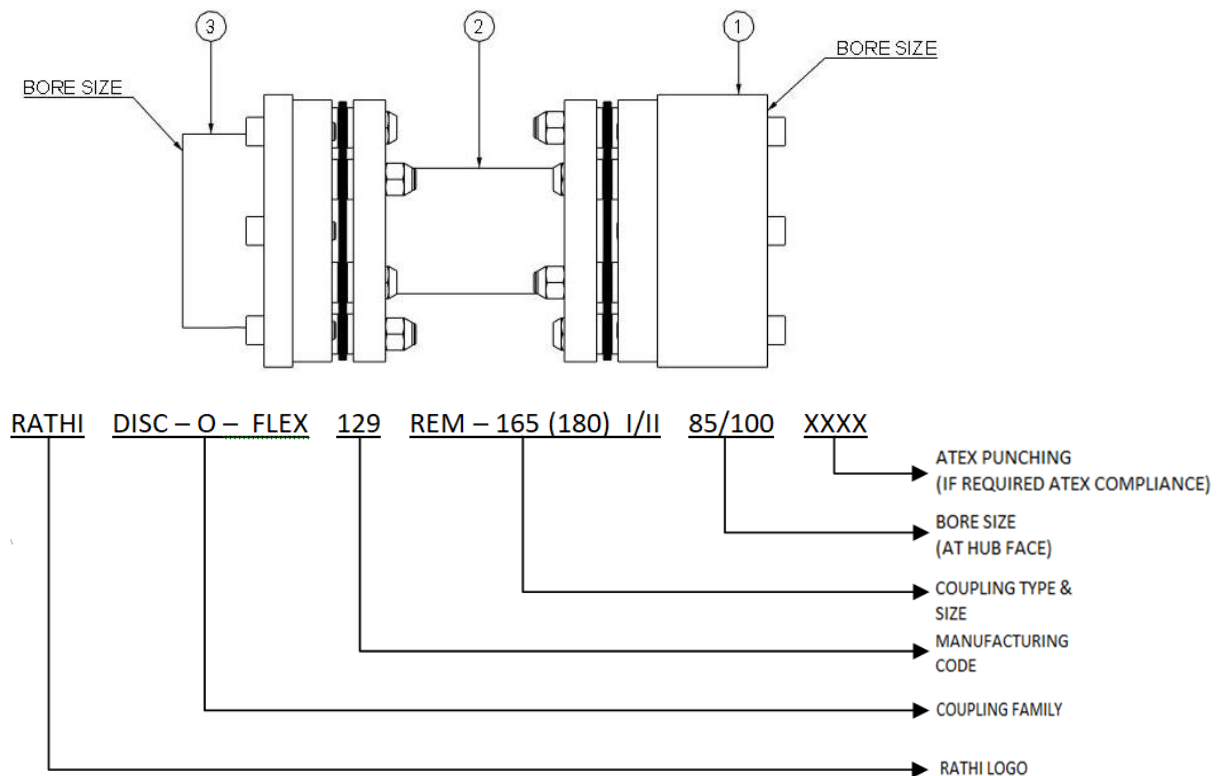

Fig.8. Marking example
- The ATEX marking for REM coupling will be given on outer surface or front side (Fig. 8).